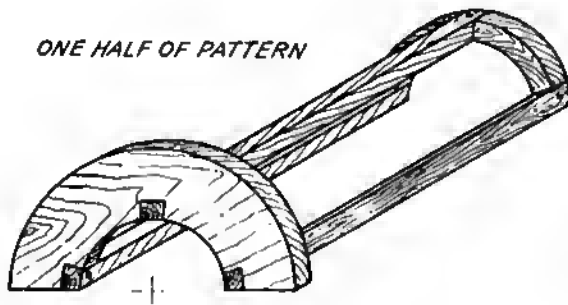

FIG. 235.
Skeleton patterns and core boxes may be constructed like the one illustrated (Figs. 235 to 238).
The pattern should be made in halves (Fig. 235), or a split pattern using dowel pins may be made. The core box should be made (Fig. 236) long enough for the core prints. A sweep (Fig. 238) should be used to strike off between the heads to make the core. Two half cores should be made and baked.
1. Lay one-half of the finished core on the bottom board, and set pattern (Fig. 235) over the core approximately at center. This makes the core prints.